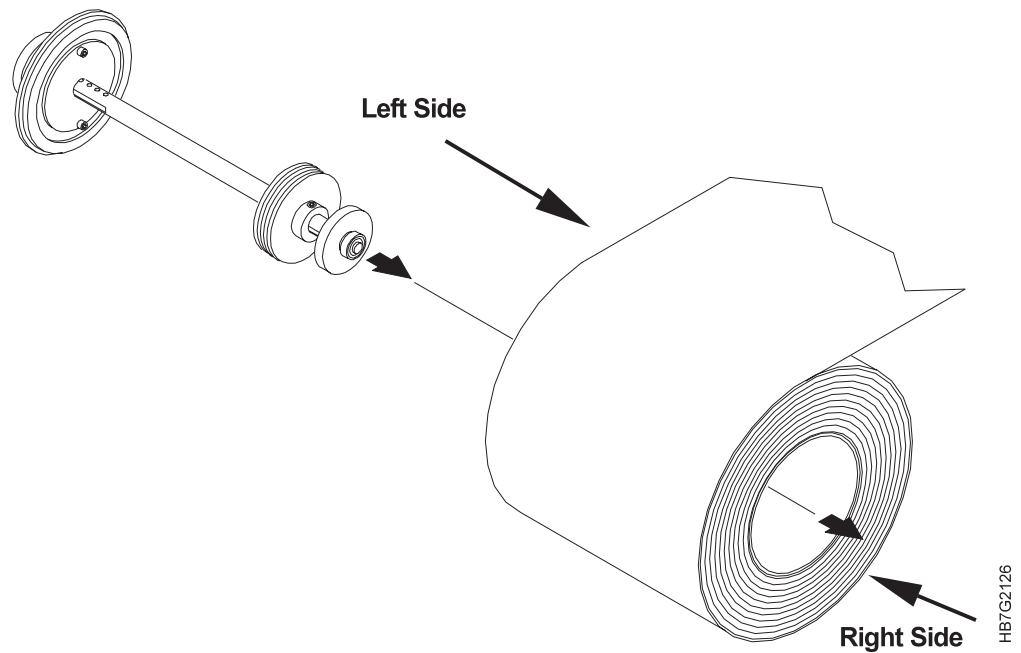

Figure 238. Inserting the Paper Roll Shaft
3. As you face the roll at the unwinding side, insert the shaft from left to right through the core of the roll, as shown in Figure 238.